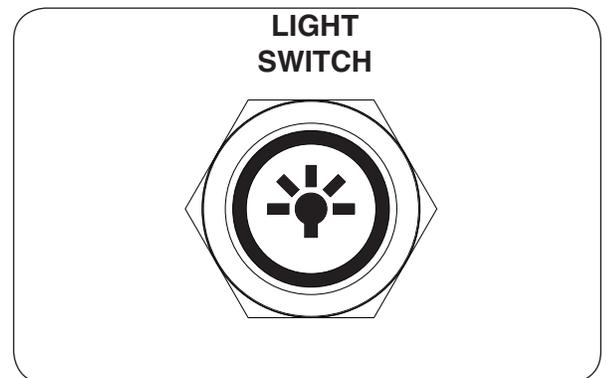

Fig. 9-3 Light switch
This key (and the entire remote) only works when the light switch located below the grill's drip tray is in the ON position. See Fig. 9-3.
1. Push the light switch (below grill's drip tray) to the ON position. The light switch will light up when on. See Fig. 9-3.